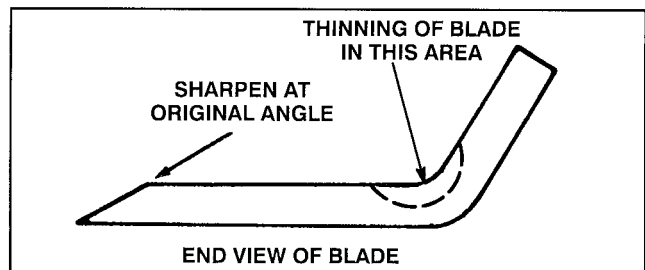

Figure 23
7. Using a file, sharpen cutting edge at both ends of the blade (Fig. 23).
Check cutter blade every time rider is tipped on end. If blade bolt holding blade is loose, tighten it to 45-60 ft-lb (61-81 N·m). If blade or sail (Fig. 23) at end of blade is worn, eroded or cracked, replace the blade. Replace the blade if it is bent or out-of-balance. Always use a genuine TORO replacement blade to ensure safety and best performance. NEVER USE A WILL-FIT REPLACEMENT BLADE.